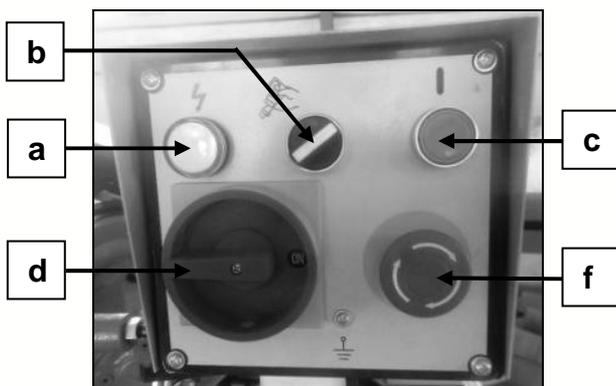
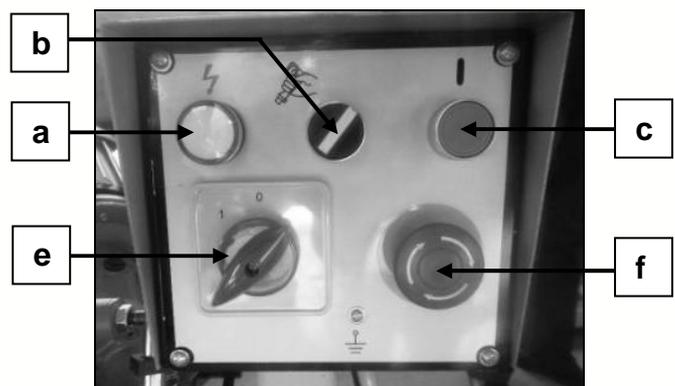

Fig 47 (Model SRM170)
Fig 48 (Model SRM170T)
TOTAL SWITCH (d Fig 47) or (e Fig 48)
EMERGENCY STOP (f Fig 47 & 48)
OPTION SWITCH (b Fig 47 & 48)
MAIN SWITCH (c Fig 47 & 48)
(2) Press the main switch (c Fig 47 & 48) in order to start the blade rotation.